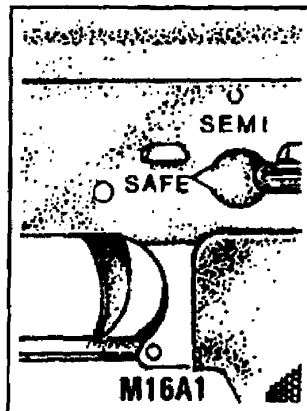

Figure 071-311-2027-1. Selector lever on SAFE.
- d. Place the selector lever on SAFE (figure 071-311-2027-1).
- e. Check the chamber to ensure it is clear (figure 071-311-2027-2).